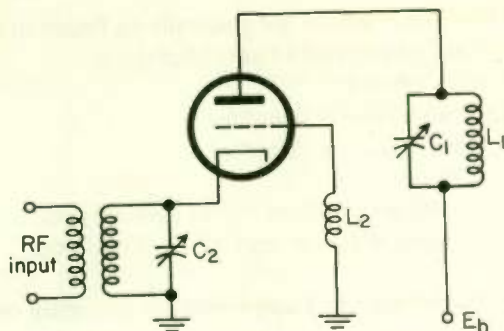

Fig. E.6
- (3) its operating signal level is too low to permit self-oscillation.
(4) the grid acts as a shield between the input and output circuits.
64. In Fig. E.6 which component should be omitted from the circuit for its proper operation?
(1) L_1 (2) L_2 (3) C_1 (4) C_2
65. Why should the component selected in Question 64 be removed from the circuit of Fig. E.6?